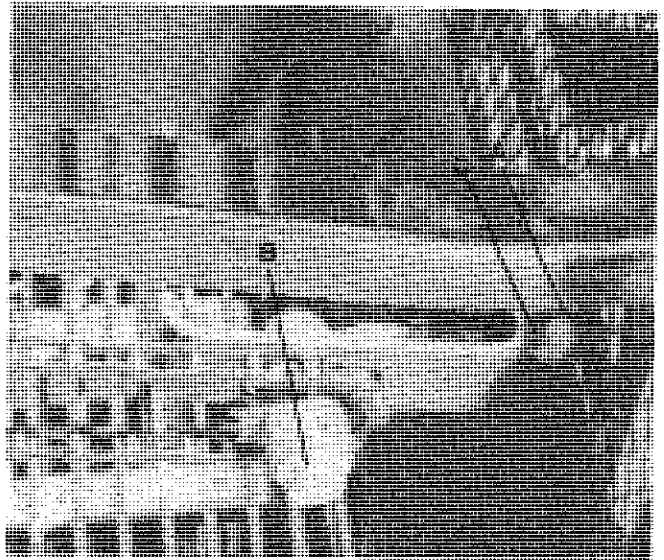

FIGURE 39 - POSITIONING CHAIN TENSIONING
The belted chain tension is adjusted by loosening nuts (B) then loosening nuts (A). Turn outer nut (A) counterclockwise to increase tension, or clockwise to decrease tension. Tighten nuts (see figure 39). The belt should be 1" to 2" above 5" roller at joint of elevator.
Loosen lock nut (A), idler bolt (B) and turn adjusting nut (C) clockwise to increase chain tension. Adjust both chains equally so the elevator moves in and out easily. Tighten both nuts (see figure 39).